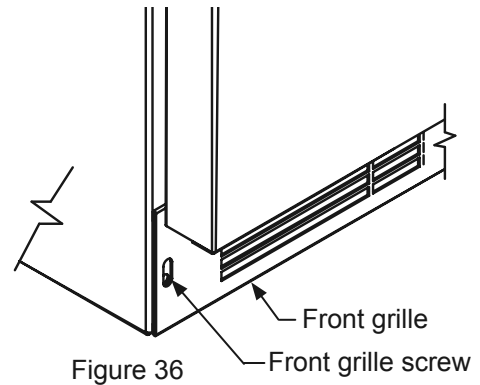

Figure 36
12. Remove the front toe-grille, (see Figures 36 and 37), and use a brush and vacuum to clean dirt and debris from beneath the unit.